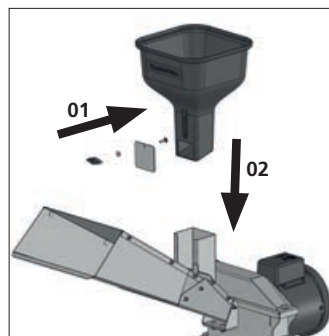

Fig. 03
Mount the grain funnel (1) using a flat washer, the M6 x 30 mm screw and the M6 2-point. Attach the grain funnel to the green product chute [Fig. 03].